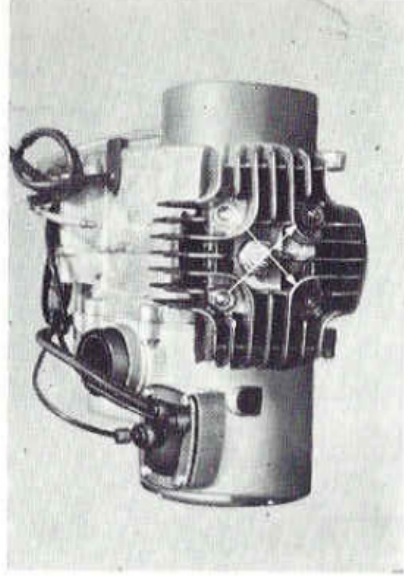

Fig. 8-3-29
21. When installing the **cylinder head**, tighten the 4 cylinder head nuts diagonally just the same as when loosening. (Fig. 8-3-29)